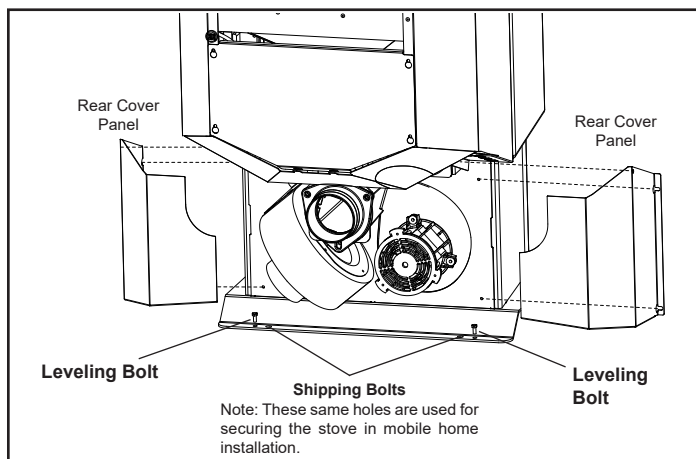

Figure 5.1
To free the stove from the skid you must remove the hold-down bolts in the rear of the pedestal base using a 7/16" socket or wrench. Figure 5.1.
If needed, install the (2) 5/16-18 X 3/4" leveling bolts located in the hardware kit. Figure 5.1.